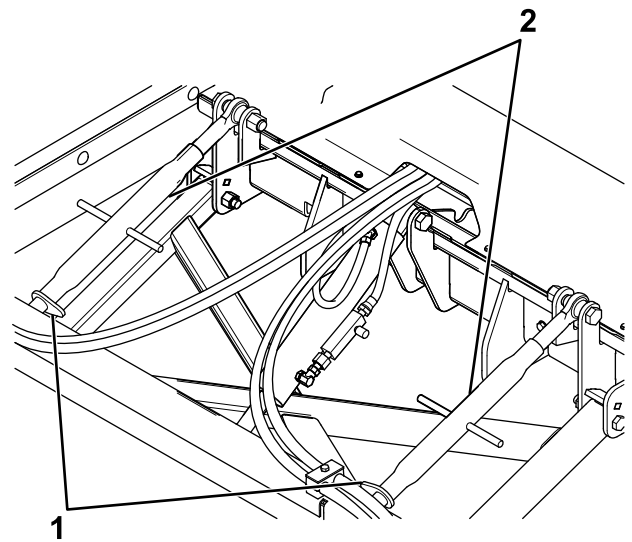

Figure 26
2. Loosen the top link locks (Figure 26).